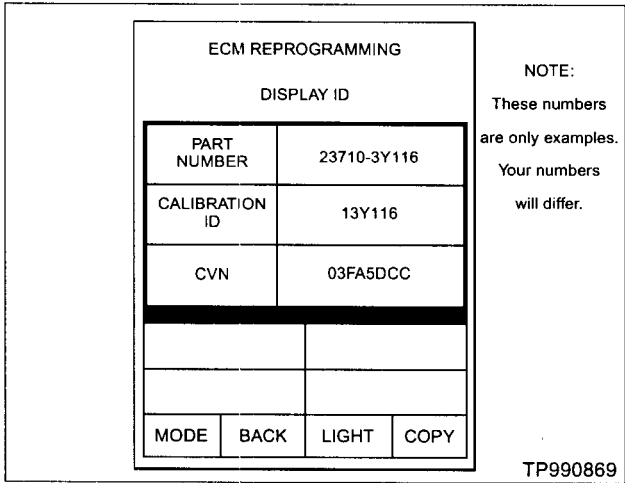

Figure 20
27. Press "CHECK CURRENT ECM P/N" to confirm the ECM part number on the vehicle to be reprogrammed (see Figure 20).